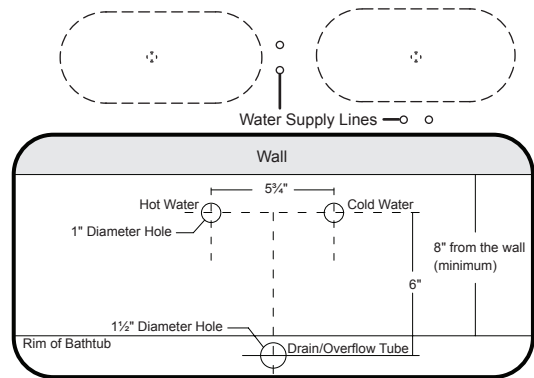

Figure 7. Securing the Bathtub
- 2 Measure 6" from the center of the water supply line to the center of the bathtub drain opening (Figure 7).